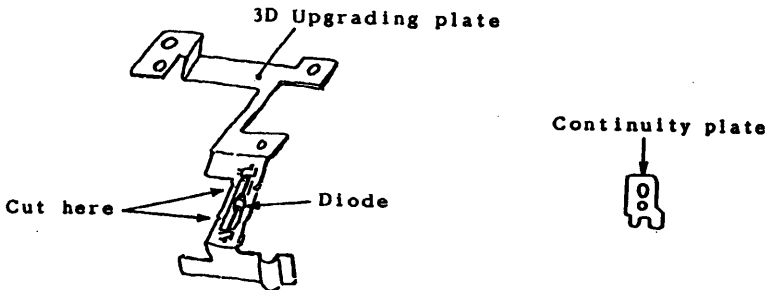

Figure 3
1. The "three diode upgrade kit" consists of the two parts shown in figure 3.
2. Cut a part of the 3D upgrading plate as shown in figure 3.